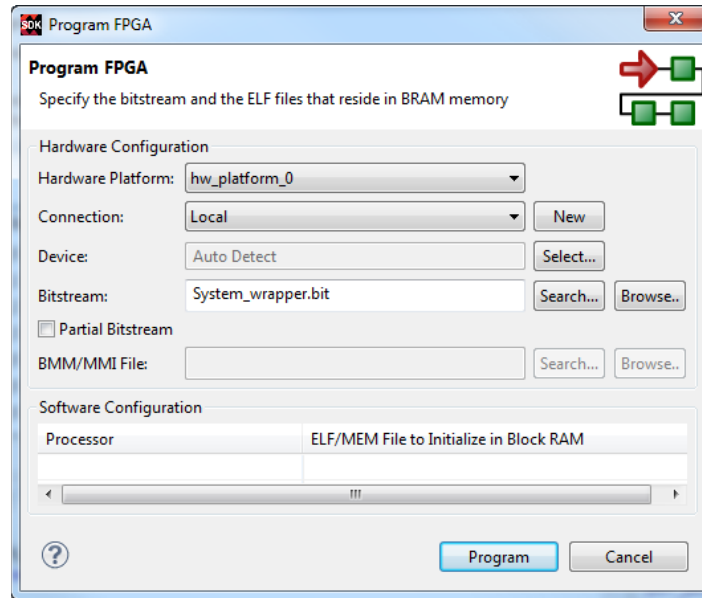

Figure 12 – Program FPGA
4. To connect to the echo server, use the telnet utility program. Type the following telnet command as shown below in figure 12 and hit the return key.